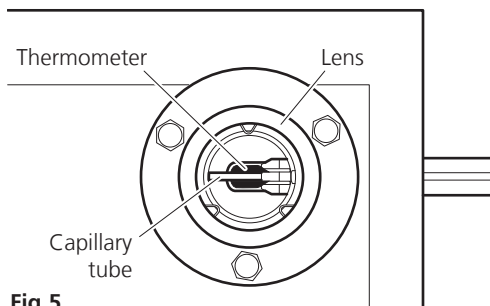

Fig 5
4. Look down the lens and position the tube so that the sample can be observed clearly (see Fig 5).